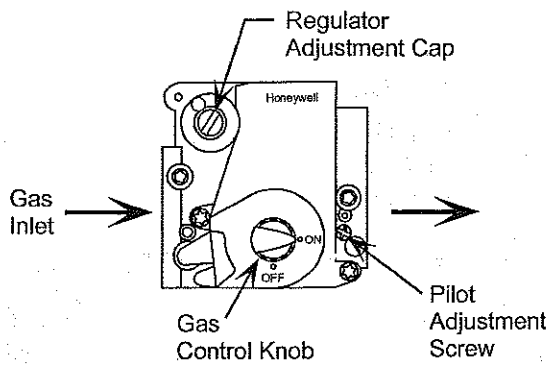
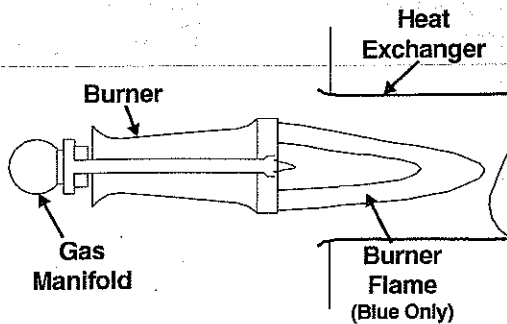

Figure 1
Figure 3
3. Remove the regulator cap, adjusting screw, and spring from the gas valve (See Figure 1). Disconnect the pilot tubing.
9. Remove the two (2) screws that hold the pilot bracket assembly on the burner rack. **NOTE:** For models equipped with a hot surface pilot, the igniter is fragile; handle the pilot carefully.
22. With the unit operating, turn the pressure regulator screw to obtain 3.5" W.C. manifold pressure (gas valve outlet). Turn the adjustment clockwise to increase pressure and counterclockwise to decrease pressure. Be sure to install the regulator cap (See Figure 1) on the gas valve.
25. Check for normal operation of the ignition system (see "Sequence of Operation" section). Cycle the main burners (See Figure 3) on and off. Ignition and extinction should be smooth. The pilot flame should cover approximately 1/2" of sensor. Adjustments to the pilot can be made by adjusting the pilot adjustment screw. (See Figures 1&2) Disconnect the manometer, replace the plug, and check for leaks at the plug. Refer to these Installation Instructions for proper sequence of operation.